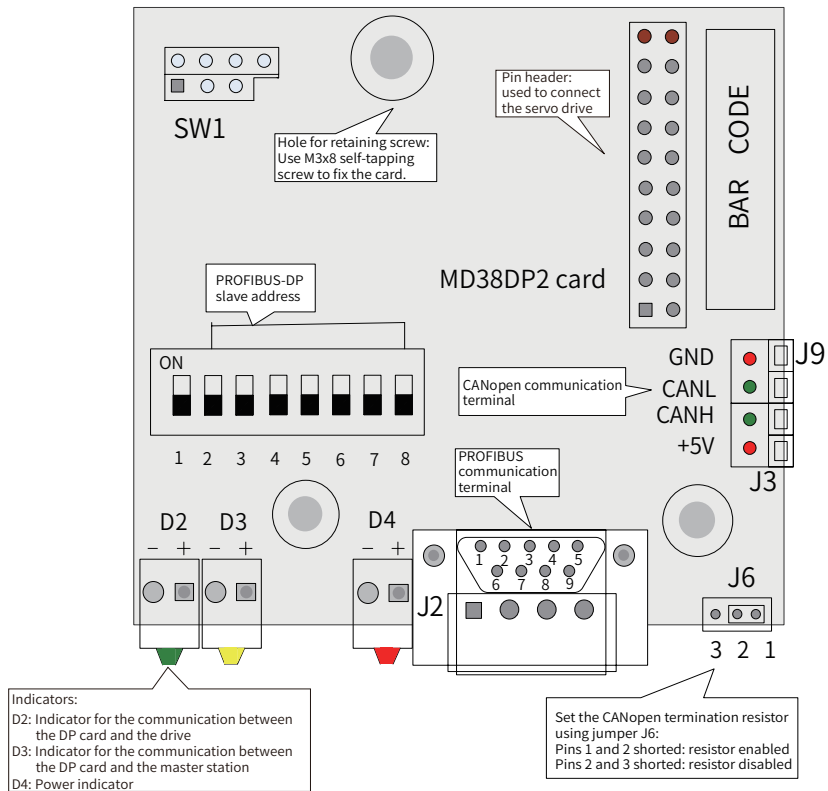

Figure 10-5 Layout of MD38DP2 terminals
- ◆ For some products, the indicator color may be inconsistent with the number. The number is preferred. The indicators are D2, D3, and D4 from left to right. See "Figure 10-5 Layout of MD38DP2 terminals" on page 146 for details.